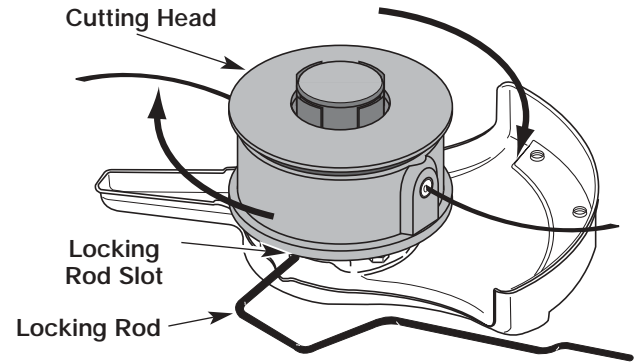

FIGURE 10
3. While holding the locking rod, remove the cutting head by turning it clockwise off of the output shaft, Figure 10. Store the cutting head for future use.